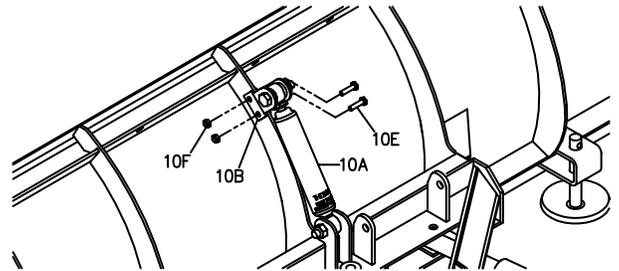

Figure 6. Shock Mounts to Plow Blade G10063
9. Align the small holes in Blade Shock Mounts (10B) with the holes in the center rib of the snowplow as shown in Figure 6. You must have one Blade Shock Mount (10B) on each side of the center rib. Attach with two **HDW01719** 3/8"-16 x 1 1/2" Hex Head Cap Screws (10E) and two **HDW01720** 3/8"-16 Nylon Lock Nuts (10F). Leave the hardware finger tight.